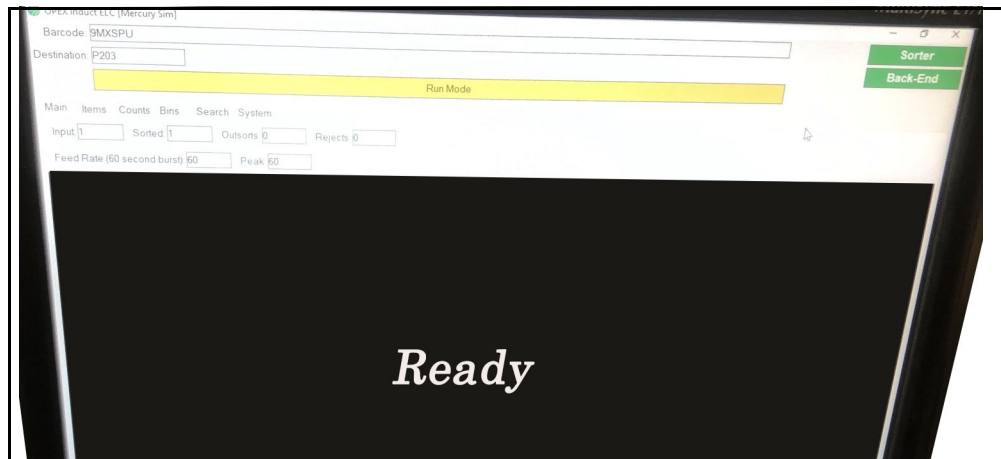

Figure 4-31: Ready for Scanning an Item
2. Check the screen of the OPEX Induct ELC. It should be black and display “Ready” (see Figure 4-31).